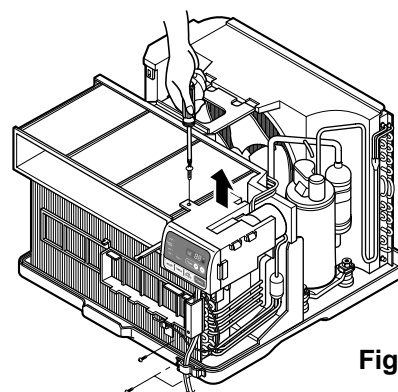

Figure 16
13. Raise the control box upward completely. (See Figure 16)